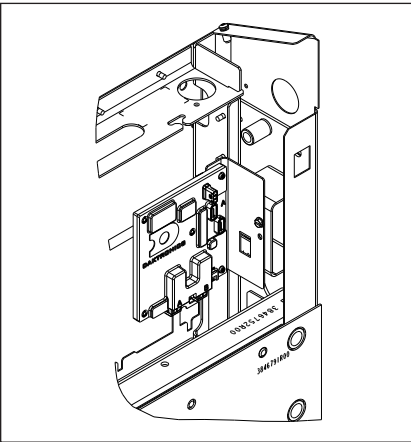

Figure 11: Mount PLR in Display
- 1. Use the supplied hardware to place the ProLink Router(s) (PLRs) at the locations specified on **DWG-3859883** and the contract-specific Signal Interconnect Drawing and System Riser Diagram. Refer to **Figure 11**.